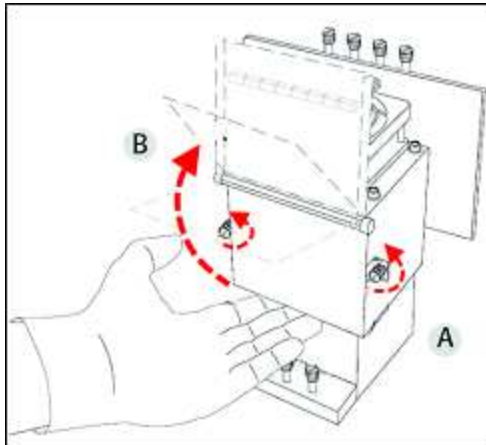

Figure 6-73 Opening the print-head compartment
- a. Open the print head compartment (see Figure 6-73 on page 6-54).